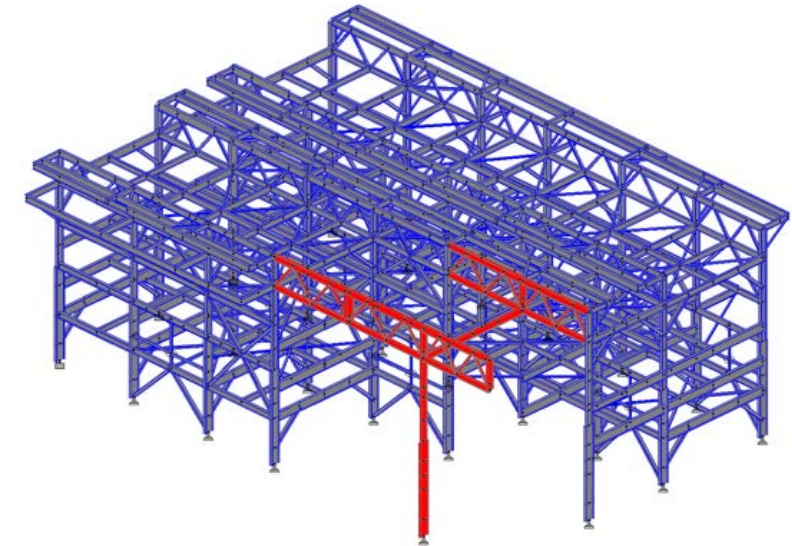

Figure 6 Final Result of PFP application
- ➔ Figure 6 shows the final result of the PFP applied members